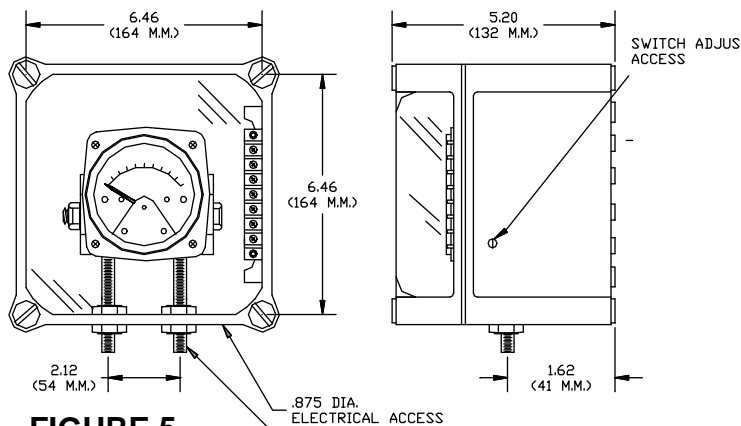

FIGURE 5
Access the terminal strip by removing the cover from the enclosure and loosening the (4) screws. Insert wires through an appropriate weatherproof connector (not supplied) into the enclosure and connect to the terminal strip. See the terminal strip diagram shown below or on the outside of the switch enclosure. Reinstall the cover and (4) screws (See Figures 5 & 6).